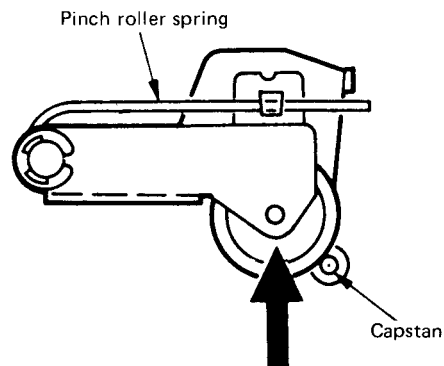

Fig. 12
- 1) Position the mechanism shown in Fig. 12 with the motor side down, enter the recorder into the playback mode, and hang a tension gauge on the protrusion part of the pinch roller arm shown in Fig. 12. Next, confirm that when slowly pulling the tension gauge, the pinch roller stops rotating in the range of 450–550 g.